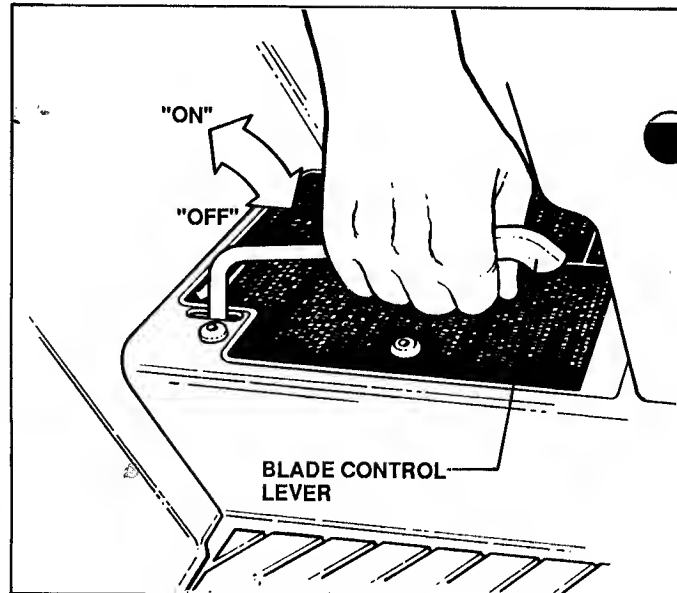
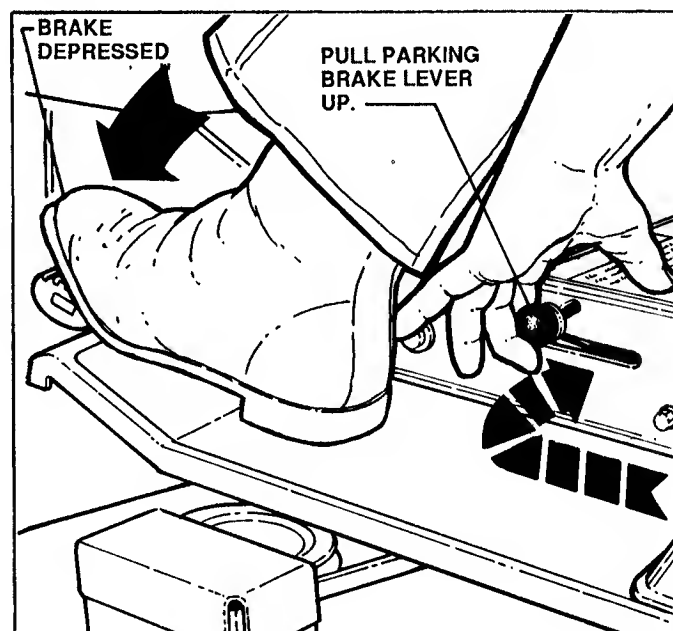

FIGURE 4
FIGURE 7
**MOWER BLADE:** *STOP MOWER BLADE* by pushing BLADE CONTROL lever downward to "OFF". See Figure 4.
1. PUSH **BLADE CONTROL LEVER** downward to "OFF" position (Fig. 4) and fully depress the **CLUTCH/BRAKE** pedal (Fig. 7), so that Safety Interlock System will allow engine to start.
Depress **CLUTCH/BRAKE PEDAL**. Pull **PARKING BRAKE LEVER** "UP" while releasing pedal. See Figure 7.